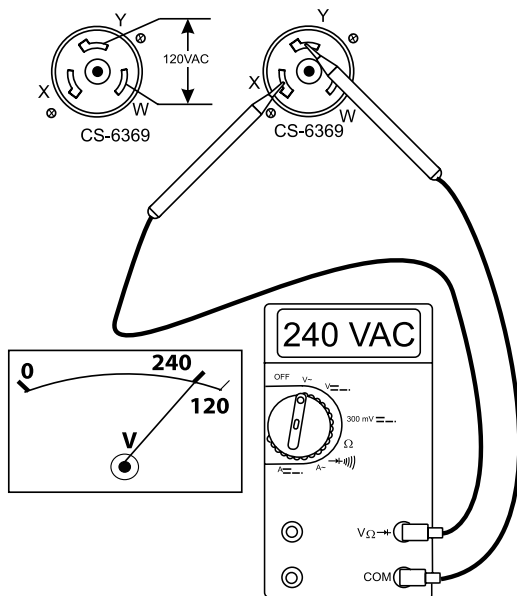

Figure 31. 120/240 CS-6369 Receptacle
4. The CS-6369 receptacle is a dual voltage receptacle (120/240 volts). Using an external voltmeter as shown in Figure 31, verify that 120/240 VAC is present at the CS-6369 twist-lock receptacle.